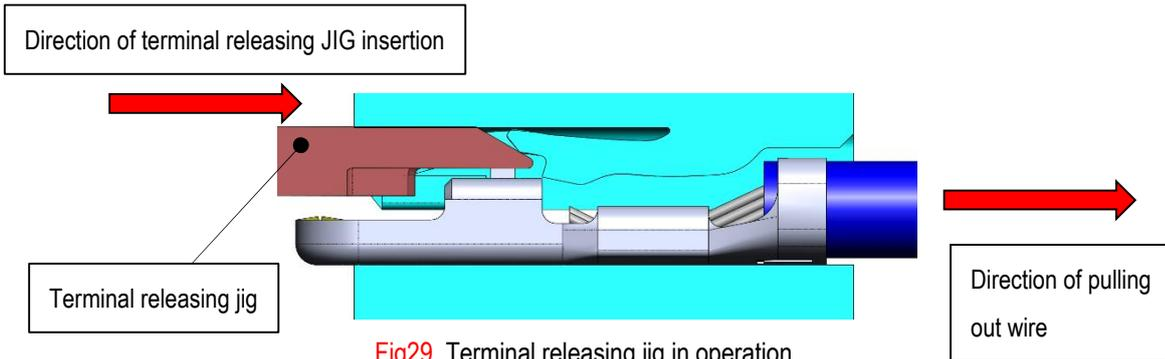

Fig29. Terminal releasing jig in operation
- ② Push the releasing jig fully into the lance shown in Fig.29, then push further and lever up the lance as shown in Fig.30.